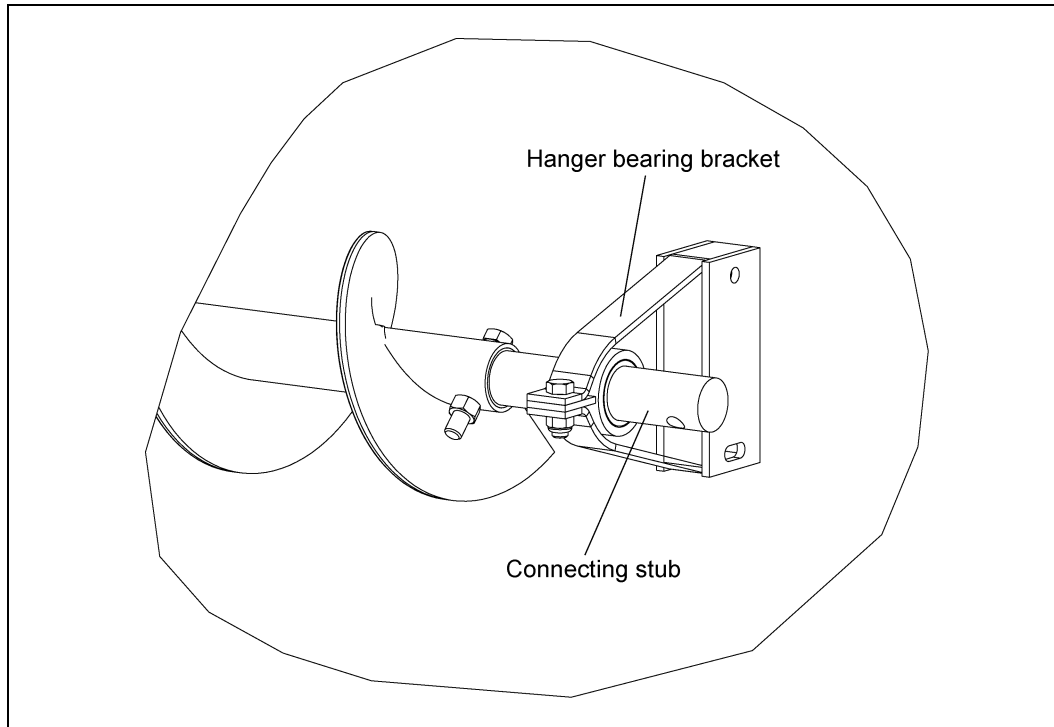

Figure 4AD
7. Install the next section of flighting onto the connecting stub. Secure the flighting with bolts (*See Note for Bolt Size on Page 29*) and stover nuts. (*See Figure 4AE.*)